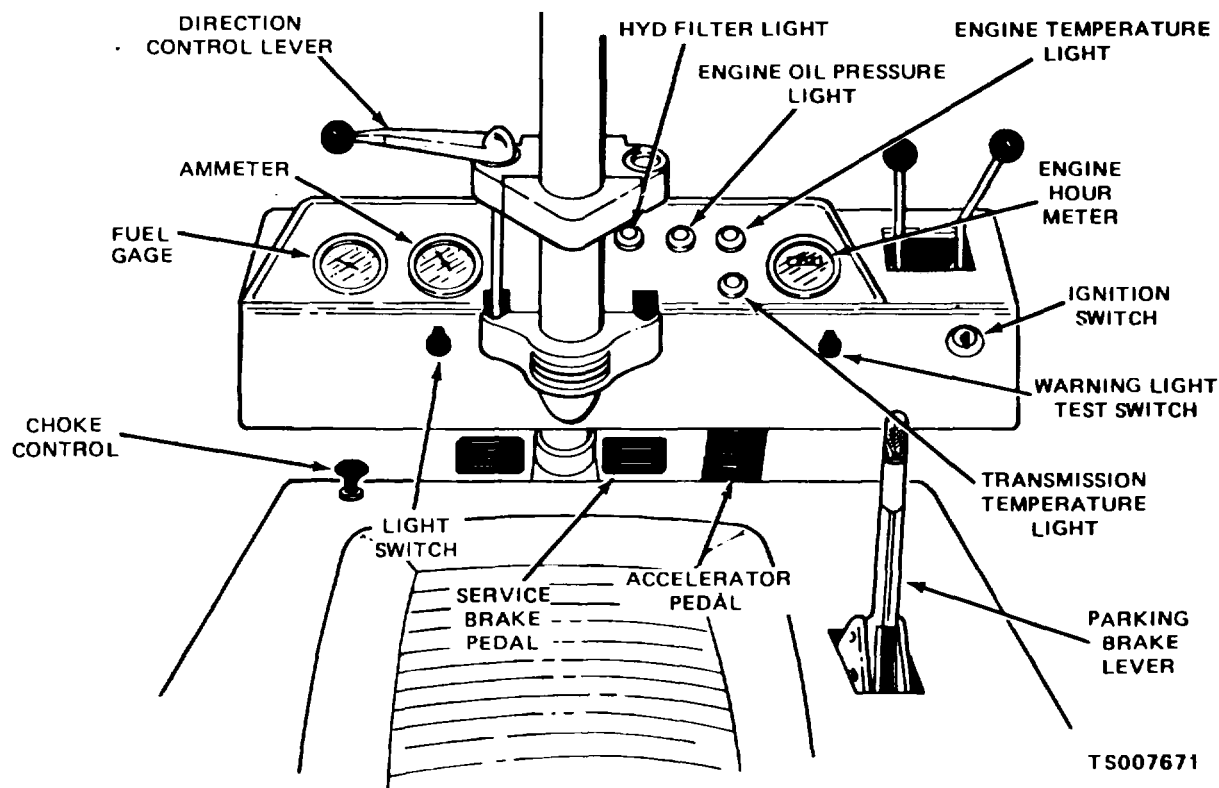

Figure 2-1. Driving Controls and Instruments
b. Starting. Refer to figure 2-1 and start the truck in the following manner:
(1) Pull up on parking brake lever to make sure it is fully engaged.
(2) Check that direction control lever is in